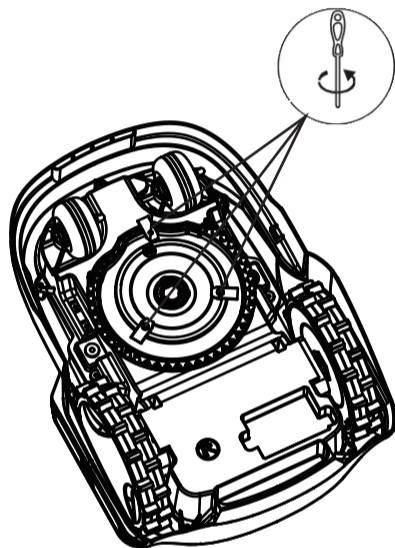

Fig.5-2
- Replace all three blades and their screws at the same time when replacing (Fig. 5-2)